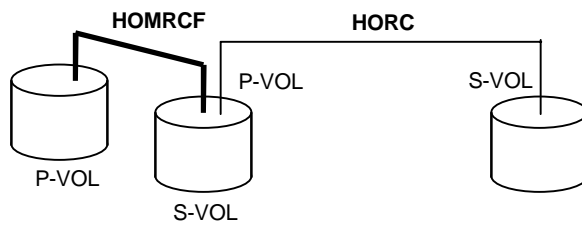

Figure 3.19 Shared HOMRCF S-VOL/HORC P-VOL
- Figure 3.19 shows an example of a ShadowImage S-VOL which is also used as a HORC P-VOL. **Caution:** This configuration requires that the ShadowImage pair be established in duplex mode (PAIR) and then split (PSUS) before the HORC pair is created.